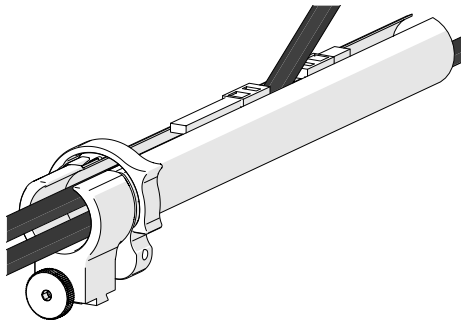

Fig. 94 - Flexibility
4. When necessary, the two zippers may be opened to allow any cables to exit the tube anywhere between the ends (Fig. 94).